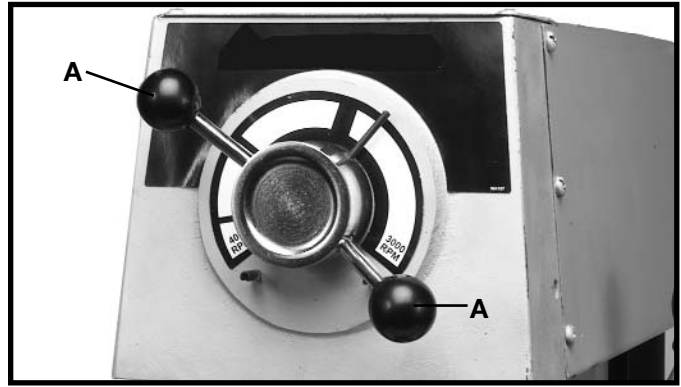

Fig. 24
**CAUTION** To avoid damaging the drive belts and pulleys, **DO NOT** turn speed control handles (A) Fig. 24, unless motor is running. The pilot wheel handles (A) are turned clockwise to increase speed and counterclockwise to decrease speed. The speed range is 500 rpm to 3100 rpm.